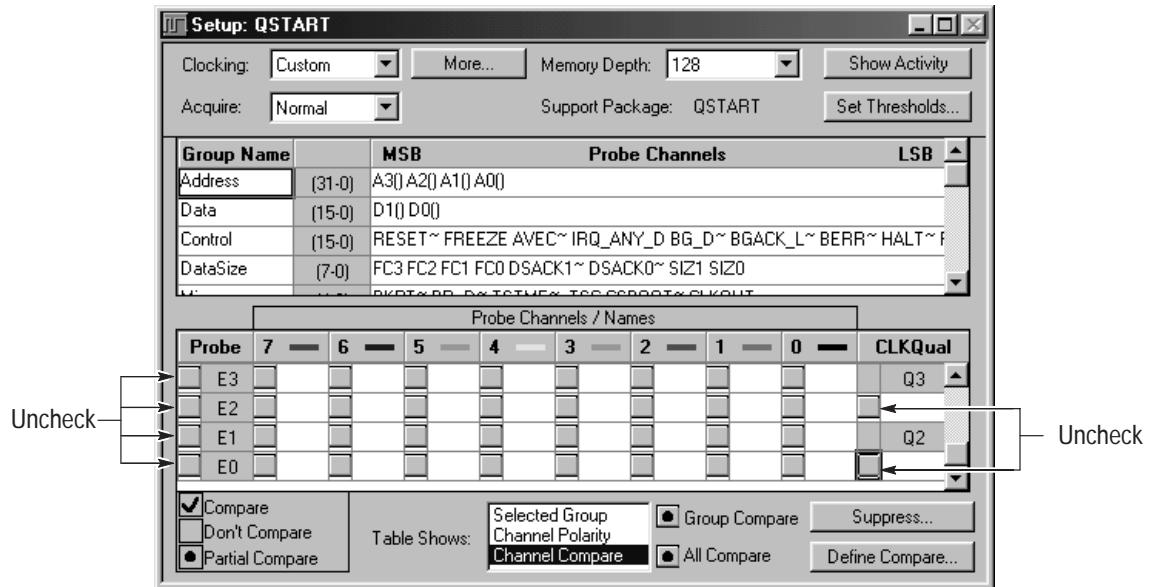

Figure 4-25: Disable the comparison (136 channel LA modules only)
**NOTE.** For 136 channel LA modules only: If you are using a 136 channel LA module, disable (unselect) the comparison on channels E3, E2, E1, E0, Q3, and Q2. Do this by scrolling down to the E channel probes in the Probe Channels/Names section of the Setup window and uncheck the boxes at the left of the screen (see Figure 4-25 on page 4-32).